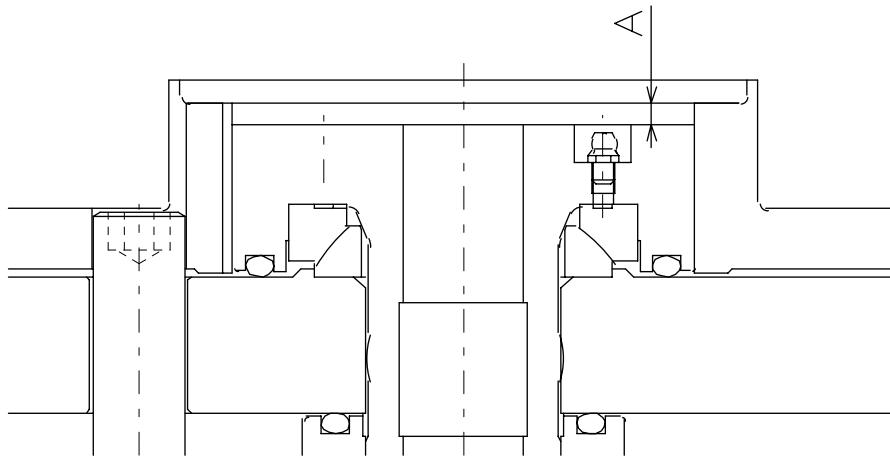

Fig.16
- Using the connecting handle, adjust the plunger position as shown in Fig.16, and then install the key plate to lock.